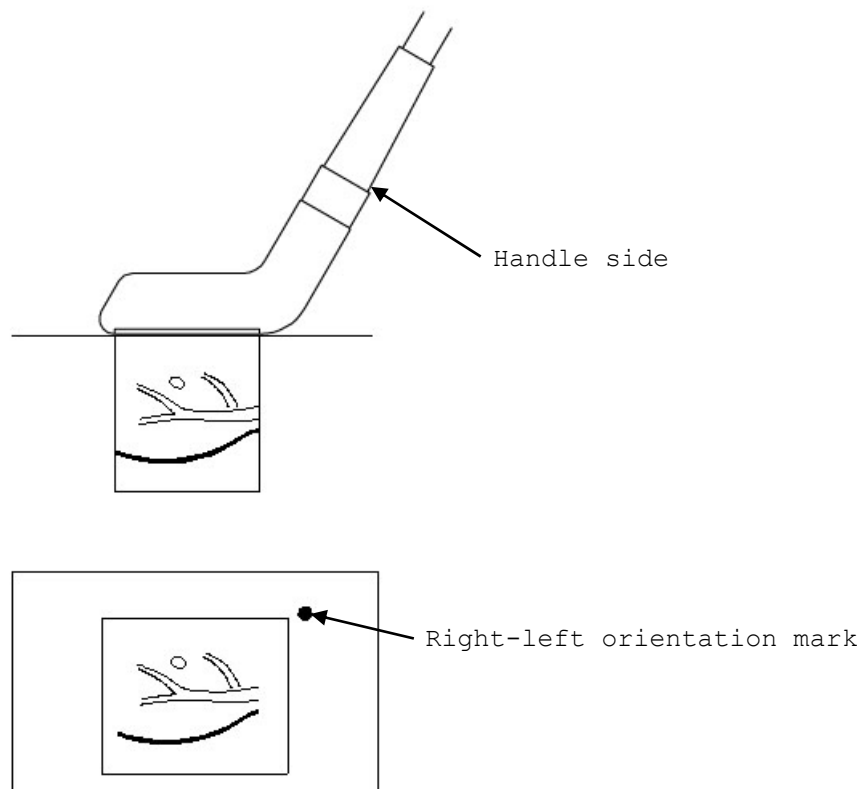

Fig.2 The Relationship between the direction of the probe and the Right-left orientation mark
- 3) Confirm the direction of the probe. The relationship between the direction of the probe and image is shown in Fig.2. The right-left orientation mark on the image indicates the handle side of the probe.